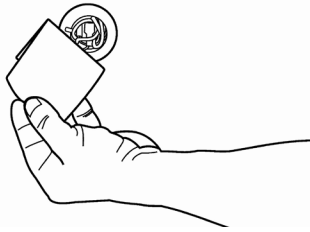

Figure 15
1. Carefully remove the tape covering the Blower Outlet (Figure 15).